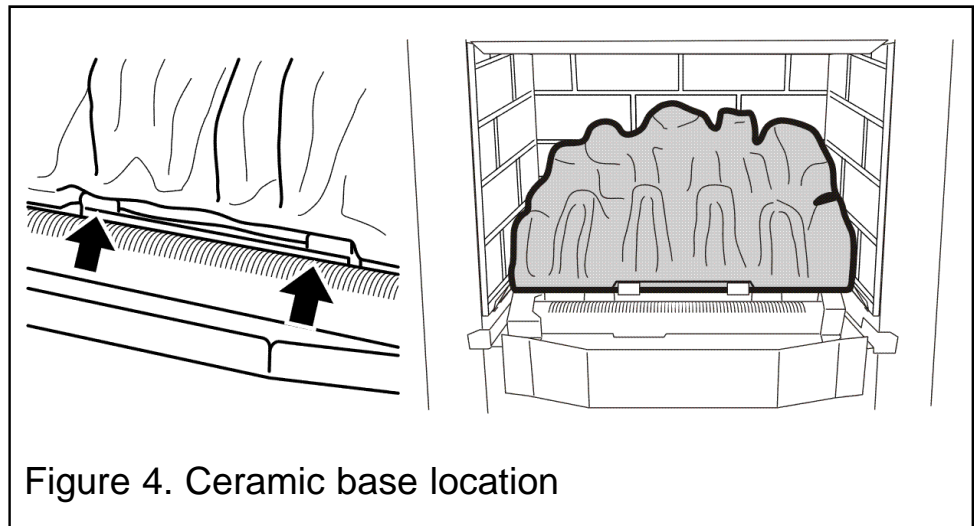

Figure 4. Ceramic base location
1. Place the ceramic base coal in the burner compartment. The bottom rear face of the coal should rest on the angled ledges at the back of the burner compartment. The bottom front recess edges on the coal base should locate against the tags at the front of the ceramic support (See figure 4).